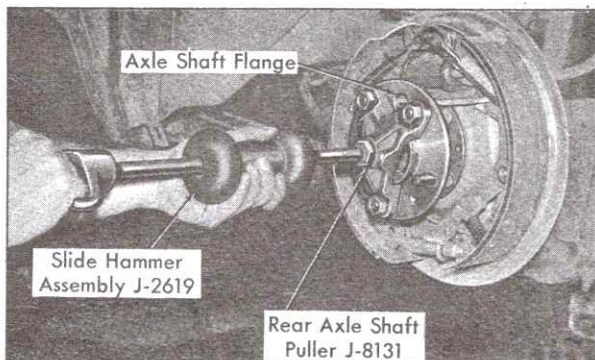

Fig. 4-30 Removing Rear Axle Shaft
3. Install Axle Shaft Puller, J-8131, on studs of rear axle shaft flange and install Slide Hammer Assembly, J-2619, in Puller, Fig. 4-30.